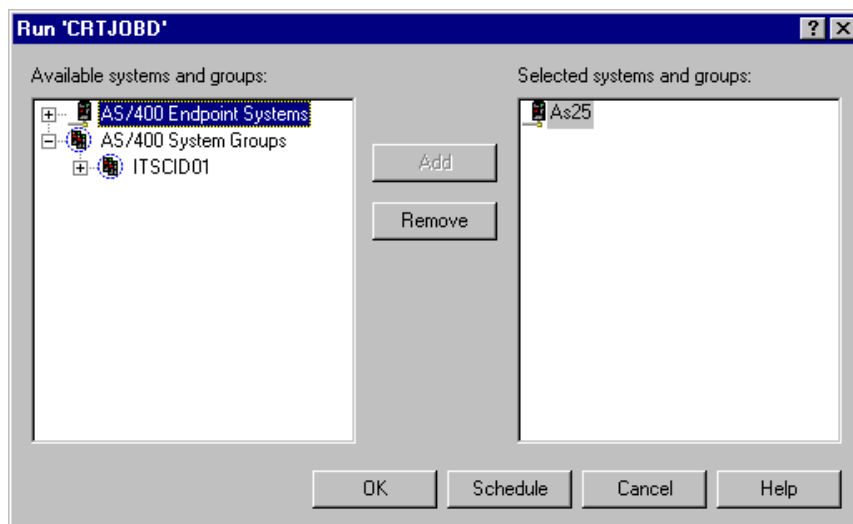

Figure 122. Run Command window: CRTJOB command selected
8. In the left-hand panel of the Run Command window shown in Figure 122, expand **AS/400 Endpoint systems** and **AS/400 System Groups**. Select the systems or groups on which you will run the command, and click **Add** to include them.